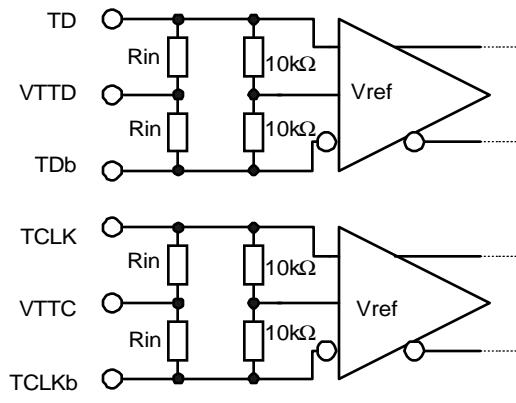

Figure 3 Data and Clock Input Interface
1. Termination current is not included. 2. Measured between each signal input and VT_{TD} or VT_{TC}. Refer to Figure 3.